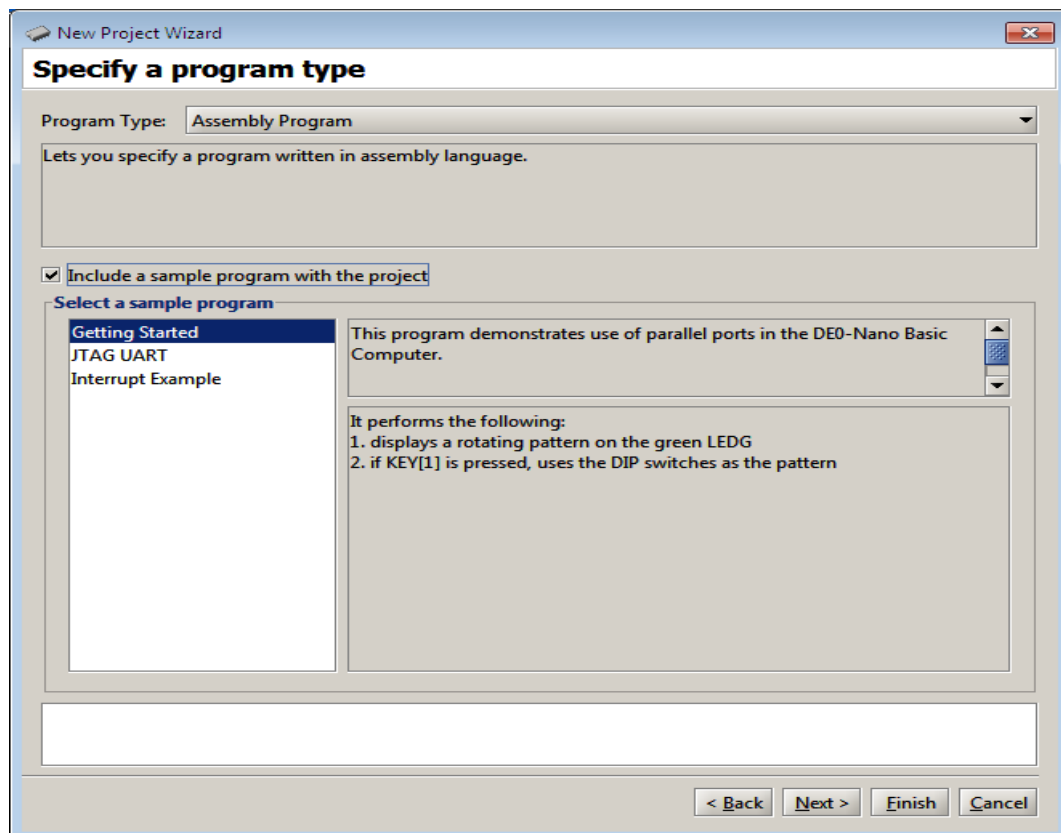
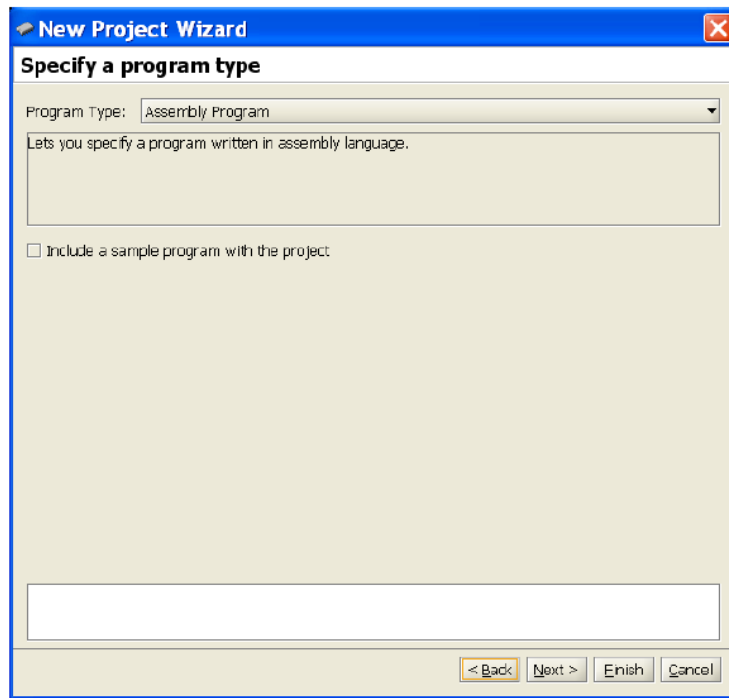

Figure 5: Selection of an application program.
Figure 12: Select an assembly language program.
4. In the window in Figure 5 you can specify the type of application programs that you wish to run. They can be written in either the Nios II assembly language or the C programming language. Specify that an assembly language program will be used. The Altera Monitor Program package contains several sample programs. Select the box: **Include a sample program with the project**. Then, choose the *Getting Started* program, as indicated in Figure 5, and click **Next**.
2. Use the Altera Monitor Program to create a new project in this directory. We have chosen the project name `part2`. When you reach the window in Figure 5 choose *Assembly Program* but do not select a sample program, as shown in Figure 12. Click *Next*.